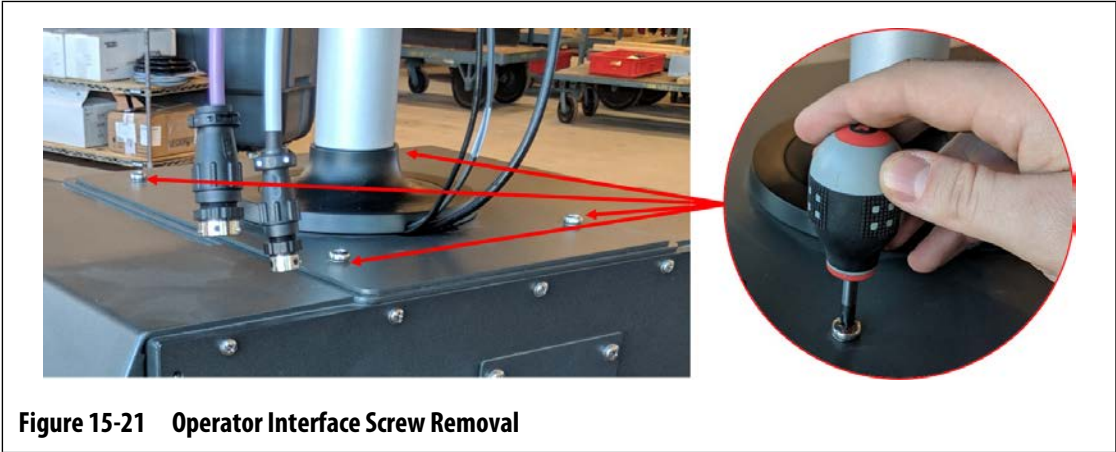

Figure 15-21 Operator Interface Screw Removal
4. Use a #4 Phillips screwdriver to remove the four screws that hold the operator interface to the top of the mainframe. Refer to Figure 15-21.